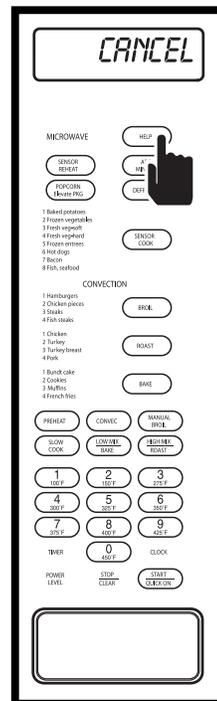

Figure 3-63.
4. For this example, to switch the Child Lock Feature off, press the HELP key again and "TO CANCEL - LOCK - PRESS - CLEAR" will flash on display (See Figure 3-63).